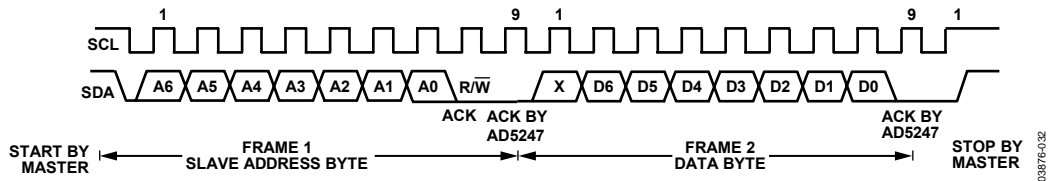
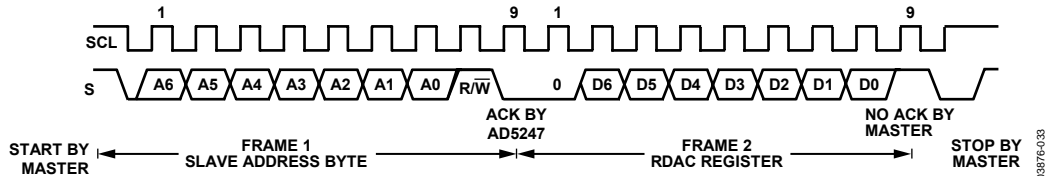

Figure 33. Writing to the RDAC Register
Figure 34. Reading from the RDAC Register
1. The master initiates a data transfer by establishing a start condition, which is when a high-to-low transition on the SDA line occurs while SCL is high (see Figure 33). The following byte is the slave address byte, consisting of the 7-bit slave address followed by an $\overline{R/W}$ bit (this bit determines whether data is read from or written to the slave device). The slave, whose address corresponds to the transmitted address, responds by pulling the SDA line low during the ninth clock pulse (this is termed the acknowledge bit). At this stage, all other devices on the bus remain idle while the selected device waits for data to be written to or read from its serial register. If the $\overline{R/W}$ bit is high, the master reads from the slave device. If the $\overline{R/W}$ bit is low, the master writes to the slave device.
2. In write mode, after acknowledgement of the slave address byte, the next byte is the data byte. Data is transmitted over the serial bus in sequences of nine clock pulses (eight data bits followed by an acknowledge bit). The transitions on the SDA line must occur during the low period of SCL and remain stable during the high period of SCL (see Figure 33).
3. In read mode, after acknowledgment of the slave address byte, data is received over the serial bus in sequences of nine clock pulses (a slight difference from write mode, where eight data bits are followed by an acknowledge bit). Similarly, the transitions on the SDA line must occur during the low period of SCL and remain stable during the high period of SCL (see Figure 34).
4. When all data bits have been read or written, a stop condition is established by the master. A stop condition is defined as a low-to-high transition on the SDA line while SCL is high. In write mode, the master pulls the SDA line high during the 10th clock pulse to establish a stop condition (see Figure 33). In read mode, the master issues a no acknowledge for the ninth clock pulse (that is, the SDA line remains high). The master then brings the SDA line low before the 10th clock pulse, which goes high to establish a stop condition (see Figure 34).